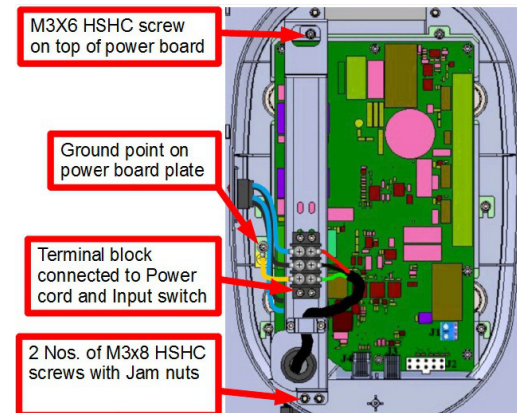

Figure 119
- Disconnect the "Live(Blue) and Neutral(Black) wires(Ring terminals) of switch" from the terminal block fixed on the power board clamp using phillips screw driver as shown in Figure 119 .
- If required disconnect the GND(ring terminal) wire from the GND terminal on power board plate located just below the switch by removing the M3X6 HSHC screw using 2.5mm allen key as shown in the Figure 119 .
- Remove the power board clamp from the base unit by removing 1 M3X6 HSHC Screw on top side of the power board using 2.5mm allen key and 2 M3X8 HSHC screws, plain washers and Jam nuts (screws will be inserted from rear side and nut with washer to be fixed from front side) using 2.5mm allen key and 5.5mm nut driver at the locations shown in Figure 119 .
- Fix the power board clamp from the base unit by fixing 1 M3X6 HSHC Screw on top side of the power board using 2.5mm allen key and 2 M3X8 HSHC screws, plain washers and Jam nuts (screws to be inserted from bottom rear side and nut with washer to be fixed from front side) using 2.5mm allen key and 5.5mm nut driver at the locations shown in Figure 119 .
- Connect the GND(ring terminal) wire to the GND terminal along with the other GND wire(If removed) on power board plate located just below the switch by fixing the M3X6 HSHC screw using 2.5 mm allen key as shown in the Figure 119 .
- Connect the “Live(Blue) and Neutral(Black) wires(Ring terminals) of switch” to the terminal block fixed on the power board clamp using phillips screw driver as shown in Figure 119 .